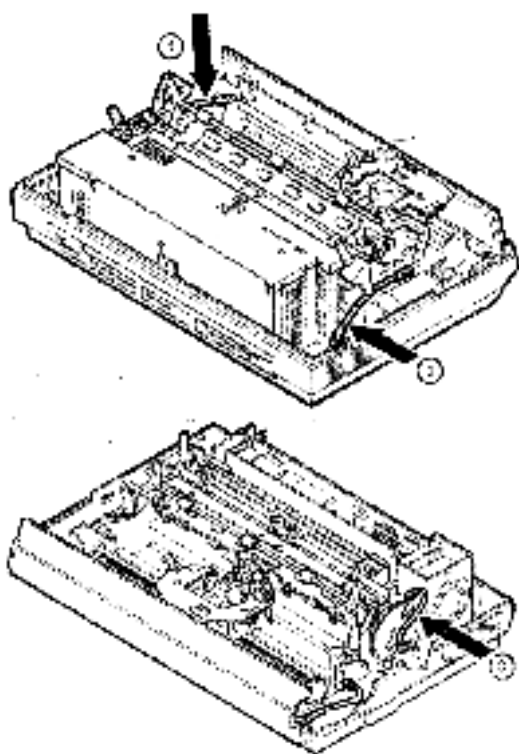

Figure 2-10 Ground Strap Locations
5. Free the ground strap on right side of mechanical subassembly by loosening the screw holding the strap to front panel (Figure 2-10).
6. Disconnect the second ground strap next to the encoder motor by loosening the retaining screw securing the strap to the mechanical subassembly (Figure 2-10).
7. Disconnect the third ground strap just behind the paper feed idler gear by loosening the retaining screw securing the strap to the mechanical subassembly (Figure 2-10).